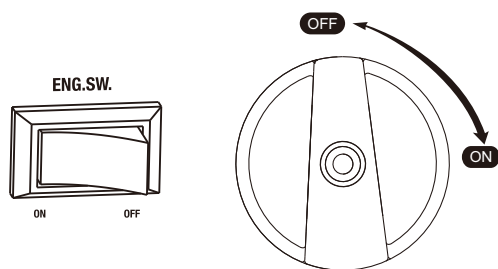

Figure 9: Turn Engine/Fuel Switch to OFF Position
3. Turn **OFF** the oil switch, Turn **OFF** the switch (see Figure 9).
If there is an emergency and the inverter must be stopped quickly, move the engine control switch to the **OFF** position immediately (see Figure 9).